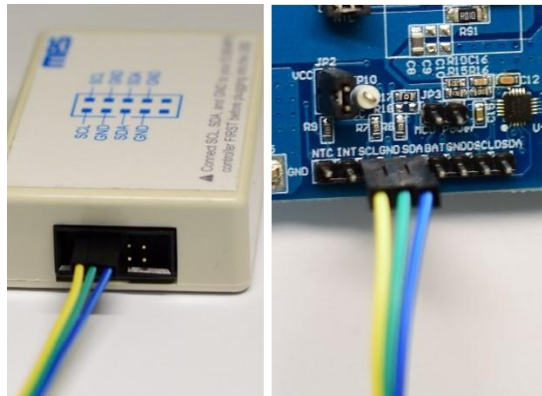

Figure 6: EVB to MPS USB Communication Interface Wire Connection
2. Connect SCL, SDA, and GND (see Figure 6). Refer to the MP2696A datasheet for further clarification.